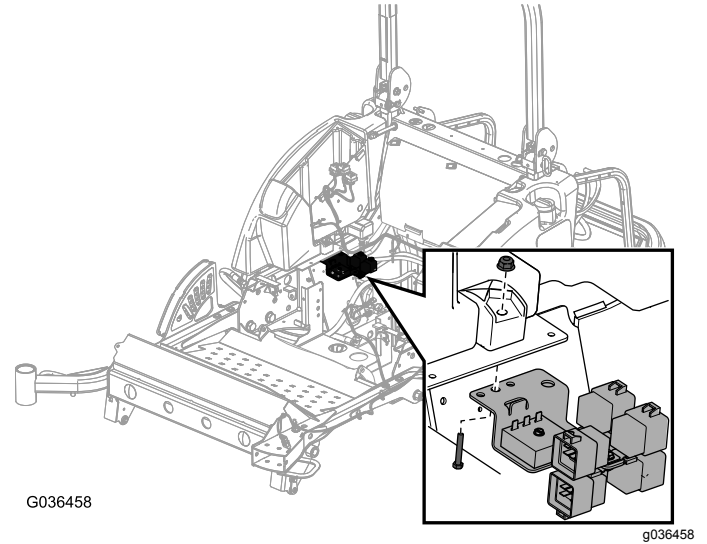

Figure 27
2. Install the relay bracket on the underside of the tank support and bracket with the existing bolt and nut (Figure 27).